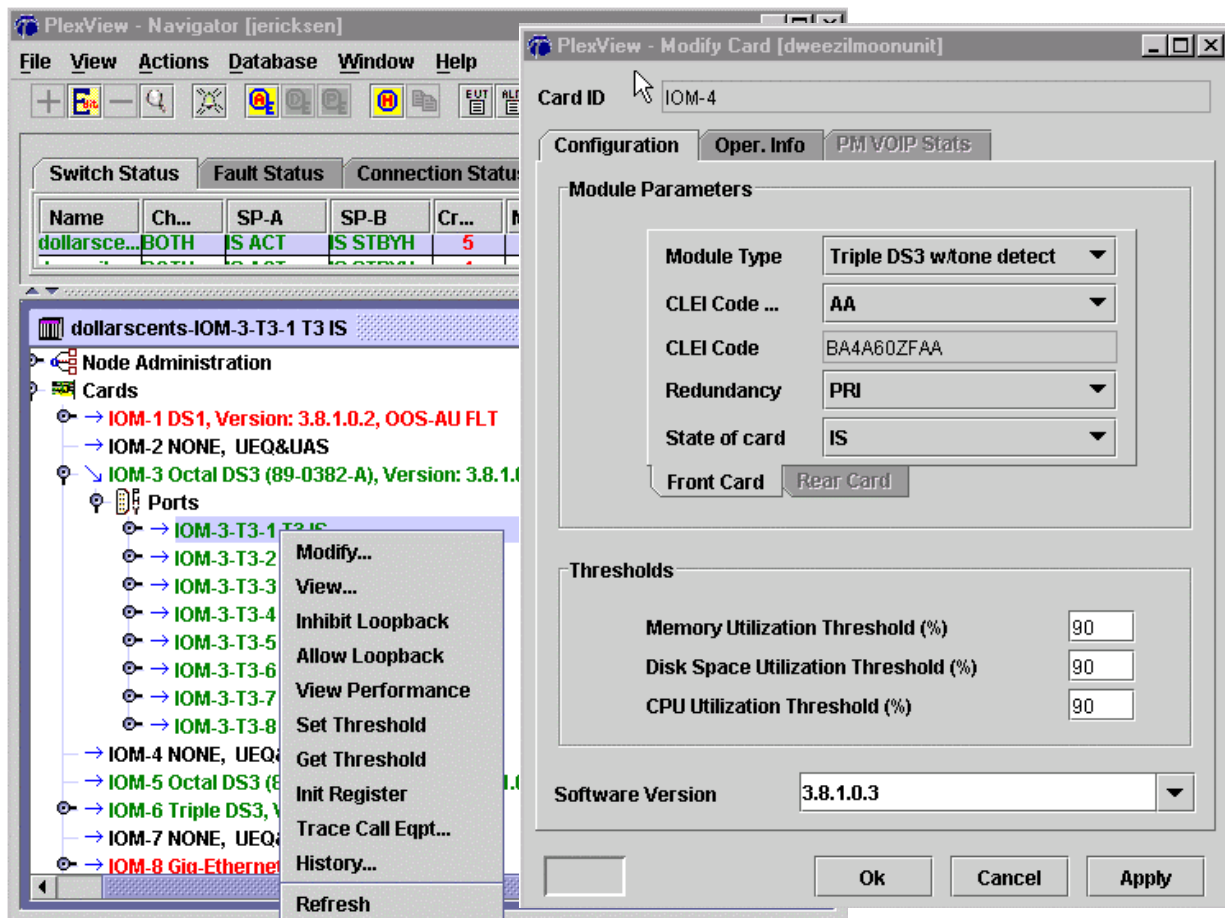

Figure 4. Retrieving Module Configuration
21. Double-click the switch to select it for the main panel and then double-click *Cards*. Right-click the desired IOM and then select *View*. Note the CLEI and software version. Refer to Figure 4.
26. Double-click the switch to select it for the main panel and then double-click *Cards*. Right-click the desired IOM and then select View. Refer to Step 21 and Figure 4.
If using **EMS**, then retrieve IOM information. Refer to Step 21 and Figure 4.